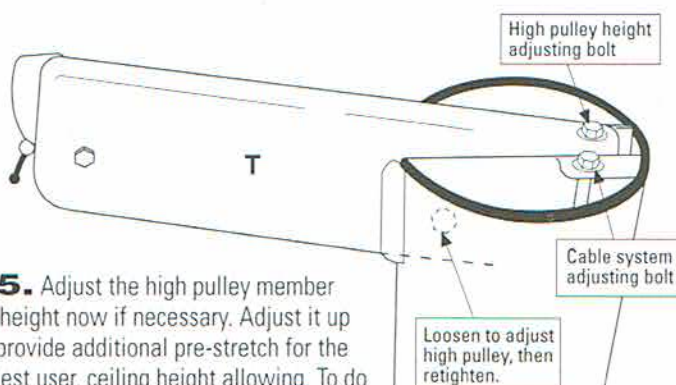

FIG. 17
25. Adjust the high pulley member (T) height now if necessary. Adjust it up to provide additional pre-stretch for the tallest user, ceiling height allowing. To do this, loosen the bolts that pass through pulley #2 at the top of the main column (H). You will need two 9/16" end wrenches for this as most other wrenches will not fit. Now tighten (or loosen if adjusting down) the bolt on the top of the back of the high pulley member (T). Once the chosen adjustment is reached, retighten the bolts that pass through pulley #2. They must be very tight. The lower two frame bolts that attach the main column frame member (D) to the main column (H) should now be tightened, taking care to see that the base of the main column is flat on the floor. FIG. 17
26. Tension the cable system by locating the adjustment screw on the right of the high pulley member (T) at the top of the main column (H). Adjust the cable tension as follows: tighten the adjustment screw until the top plate lifts slightly. Loosen the bolt until the top plate just touches the first weight plate. Check that the weight selector pin can be inserted in all weight plates. FIG. 17